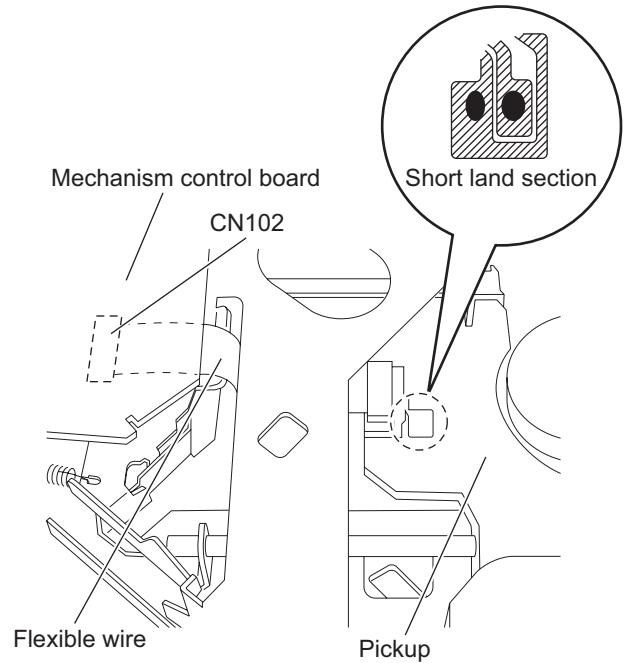

Fig.2
- Solder the short land sections on the pickup. (See Fig.2.)
If the card wire is disconnected without attaching solder, the pickup may be destroyed by static electricity. (See Fig.2.)